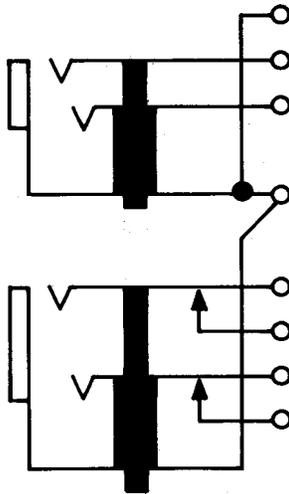

Fig. 21—518AM Jack
2.17 518AM: The 518AM is a single-mounted twin jack (Fig. 21) and has a single frame with two sleeves. This jack is designed to be used with the 338 or a similar-type plug. The contact spring of the 518AM jack is equipped with No. 2 metal contacts. The terminals are designed for mechanically wrapped connections. This jack is used in the Testing, Monitoring, and Patching Equipment in the N Carrier System.